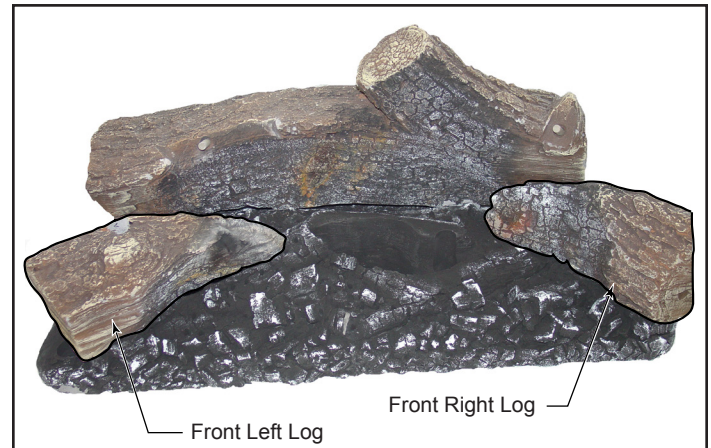

**Figure 3.27** - Rear Log
2. Install the rear log by placing it on the ember bed toward the back of the firebox. (Figure 3.27) The log should touch the back wall of the firebox. When the log is in place, the two (2) notches on the bottom of the log rest on the two (2) ribs on the back side of the ember bed. (Figure 45)